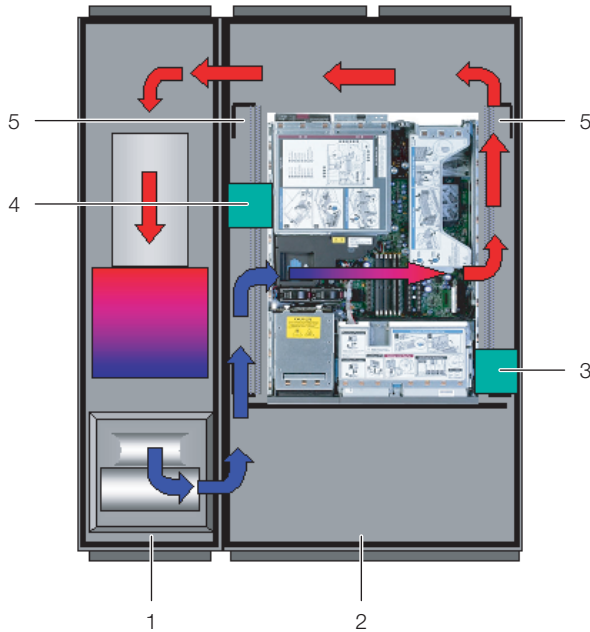

Fig. 15: Placement of foam strips for devices with sideways air throughput (top view) – LCP Rack DX
- If several devices which require sideways air throughput are included, cut out several pieces of the foam strip, as is appropriate, so that, ultimately, there is a cut-out in the foam to the left or right at the height of each such device in the server rack. Ensure that there are no gaps on the hot air side of the devices (fig. 15, item 3).
- Attach the foam strips to the cold air side of the devices set back towards the rear (fig. 15, item 4), making sure that all fans built into the devices can draw air and that none of them are blocked.
The foam strips can be attached between the front and rear uprights of the server rack along the entire depth of the devices with sideways air throughput (fig. 15, item 5).